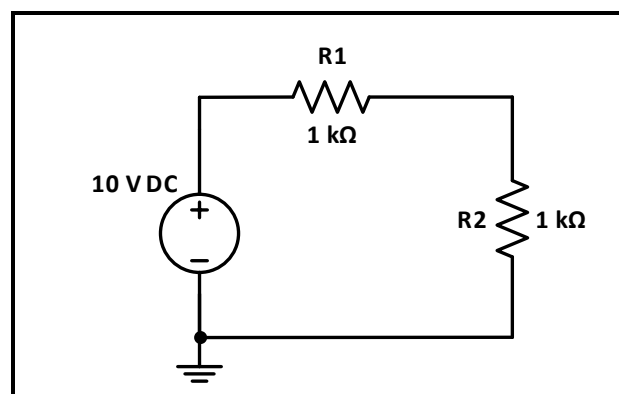

Figure 1.14
1. Connect the circuit shown in figure 1.14, set the input power supply to 10V, measure the voltage across each resistor, record and discuss results.
1. For the same circuit of figure.1.14 measure the current through each resistor, record and discuss results.